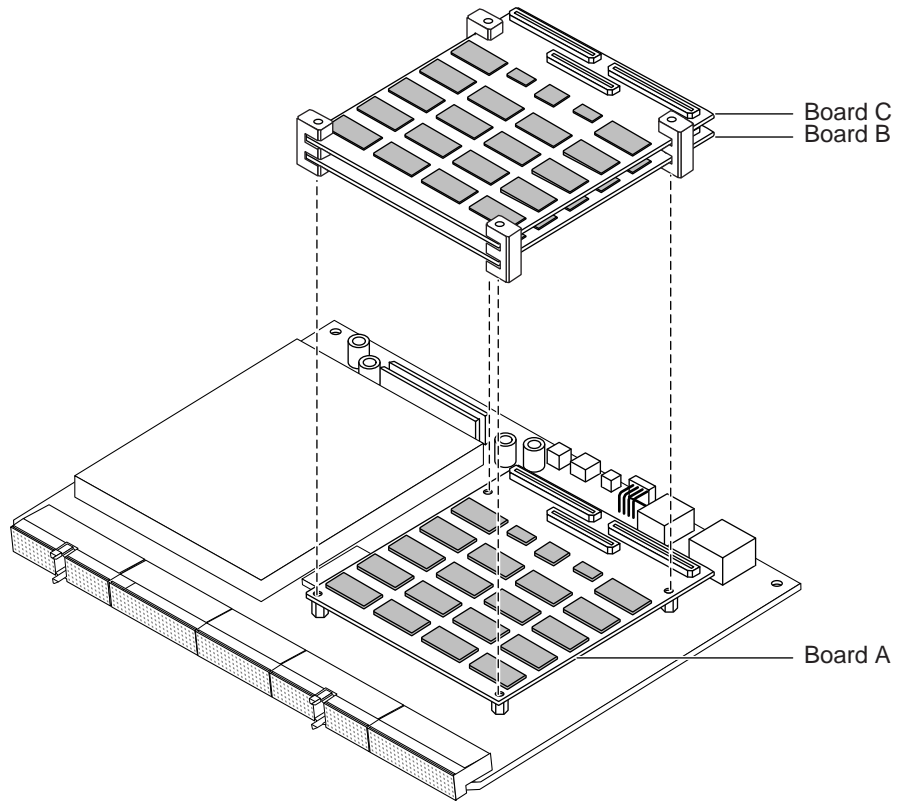

FIGURE A-12 Mounting the Second and Third Boards onto the Base Memory Board
7. Carefully transport the memory boards (boards B and C) with spacers onto memory board A (see FIGURE A-12).